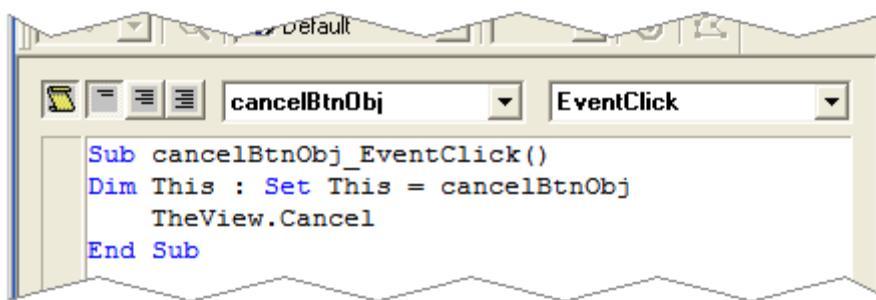

Figure 4-15. The completed statement.
- 3) Select the **Cancel** item and press the <Enter> key to confirm this selection. This will automatically complete the statement in the editor window (Figure 4-15).